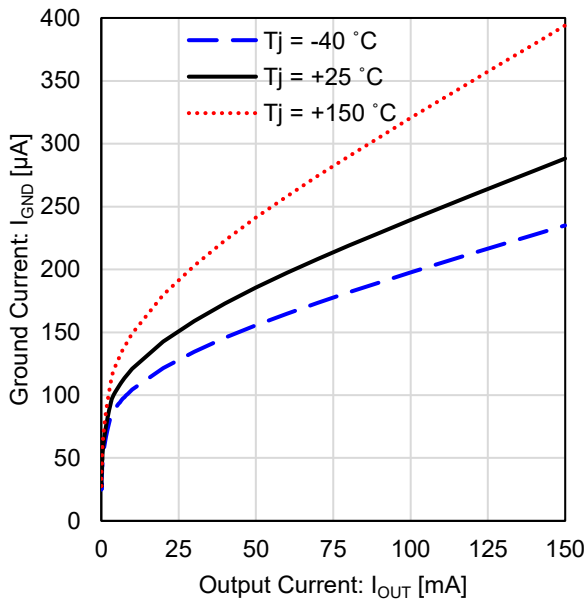

Figure 3. Ground Current vs Output Current (5 V output)
*magnification of Figure 3 at low output current (5 V output)